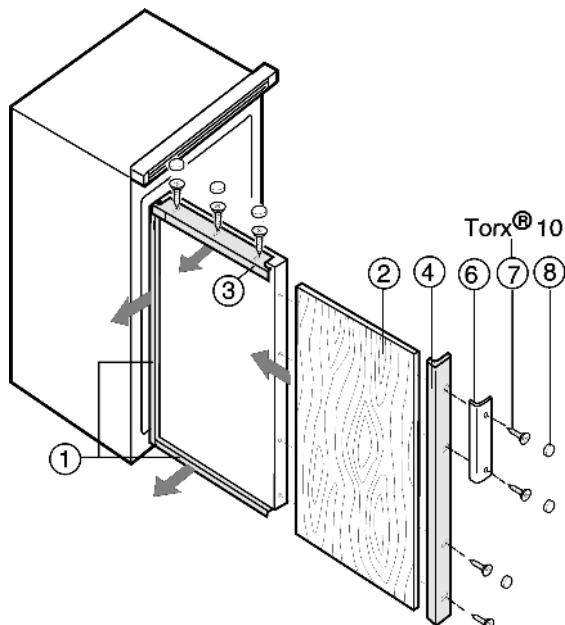

Fig. 11
- ▶ Unscrew the decor frame Fig. 11 (4) on the handle side.
- ▶ Just loosen the screws of all the other decor frames Fig. 11 (1, 3) and slide the decor frames forwards.
- ▶ Slide in the decor panel Fig. 11 (2).
- ▶ Slide back the decor frames Fig. 11 (1, 3) and screw them firmly into place.
- ▶ Fasten the decor frame Fig. 11 (4) and handle Fig. 11 (6) with the screws Fig. 11 (7).
- ▶ Snap the caps Fig. 11 (8) onto all the screw heads.